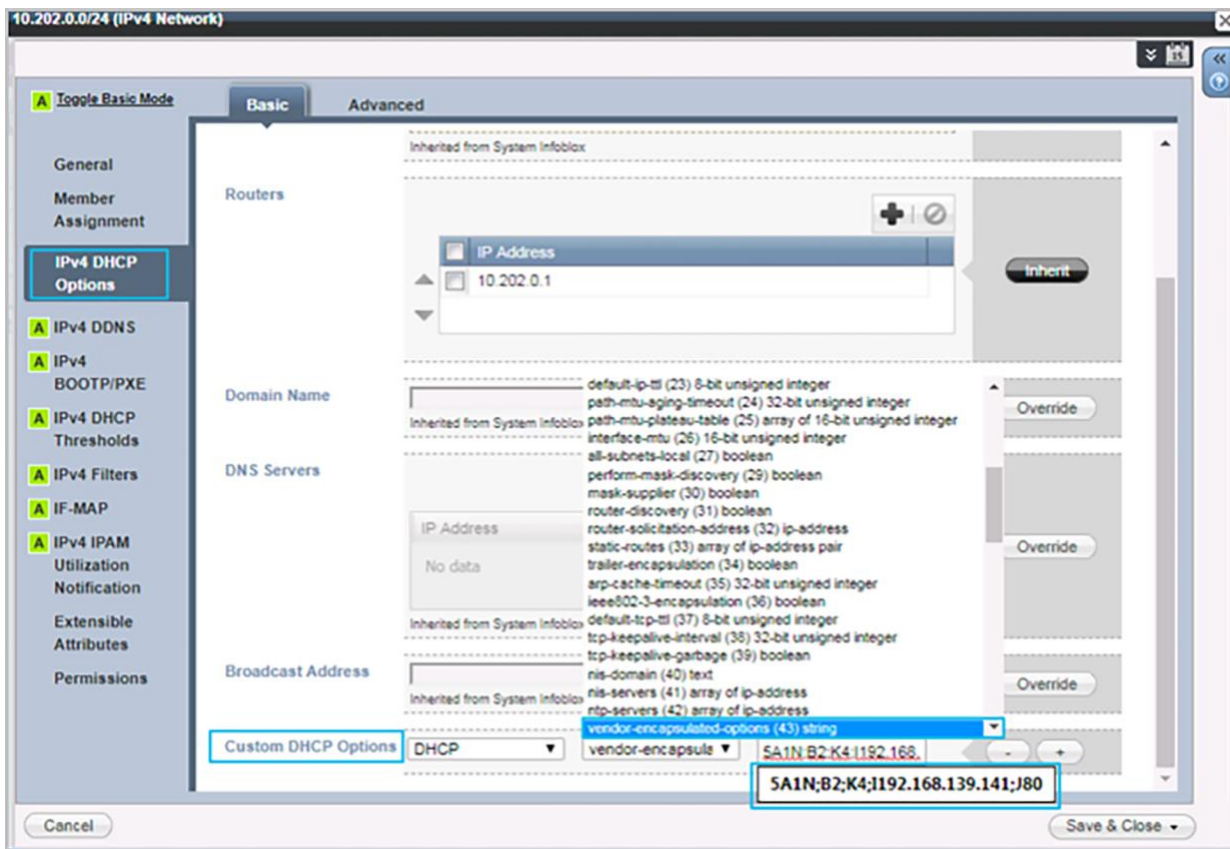

Figure 21.
- a. In the Custom DHCP options area, choose DHCP and vendor-encapsulated-options (43) string. Enter the option 43 ASCII string, such as 5A1N;B2;K4;I192.168.139.141;J80 (**Figure 21.**).